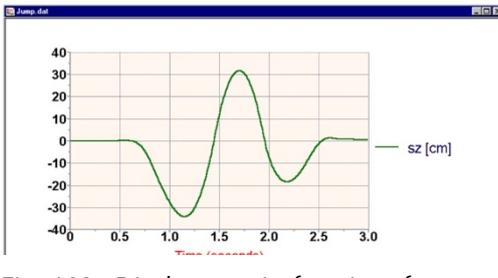

Fig. 103: Displacement of center of mass
- Select View: Edit Parameters from the main menu again. Press the "Show Performance" button and select Vertical Displacement (Z in Kistler coordinate system). Deselect the vertical force curve and select OK to graph the vertical displacement of center of mass (Fig. 103)